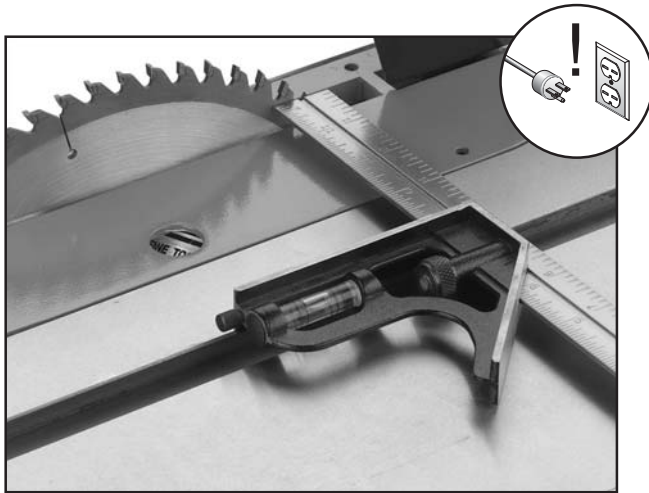

Figure 75. Adjusting blade to miter slot.
2. Use an adjustable square to measure the distance from the miter slot to a carbide tip on the blade as shown in **Figure 75**. Make sure that the face of the adjustable square is even along the miter slot.